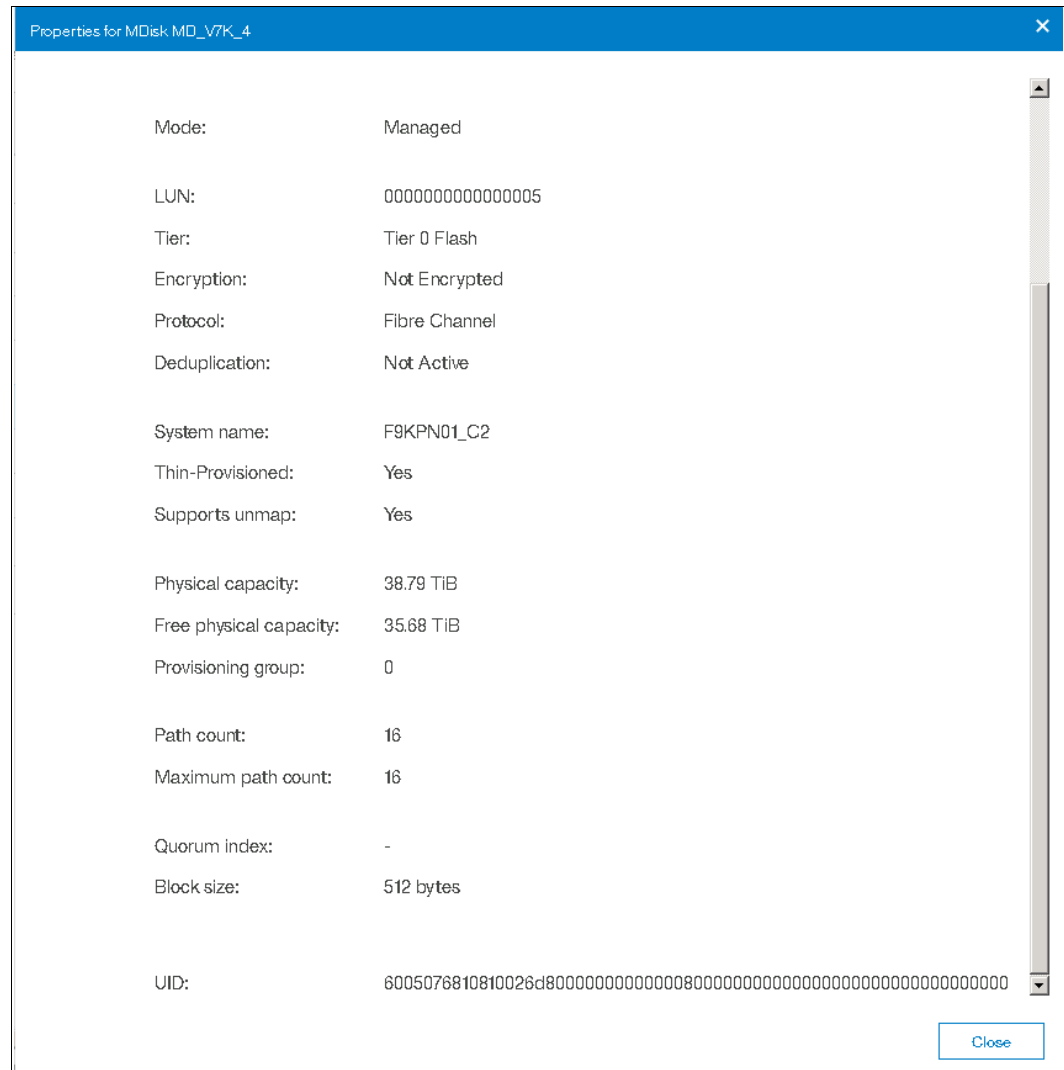

Figure 4-15 IBM SAN Volume Controller MDisk details for IBM FlashSystem volumes
3. At the virtualizer, review the MDisk details (see Figure 4-15) and compare the MDisk UID field with the FlashSystem Volume UID. The first 32 bits should be the same.